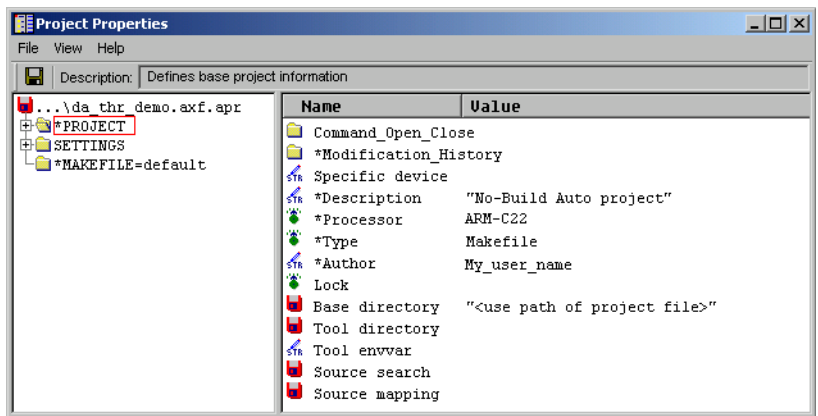

Figure 4-5 Search rules in the Project Properties window
1. Select **Project** → **Project Properties...** to display the Project Properties window, shown in Figure 4-5.